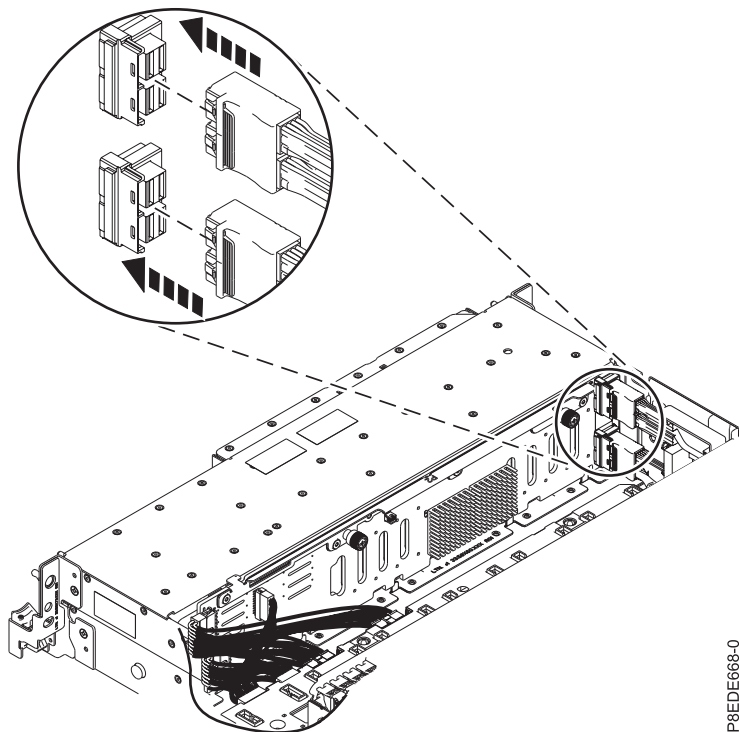

Figure 214. Reconnecting the front SAS cables
38. Reconnect the front SAS cable to the disk drive backplane as shown in Figure 214. Push the connector in until the connector latch clicks.